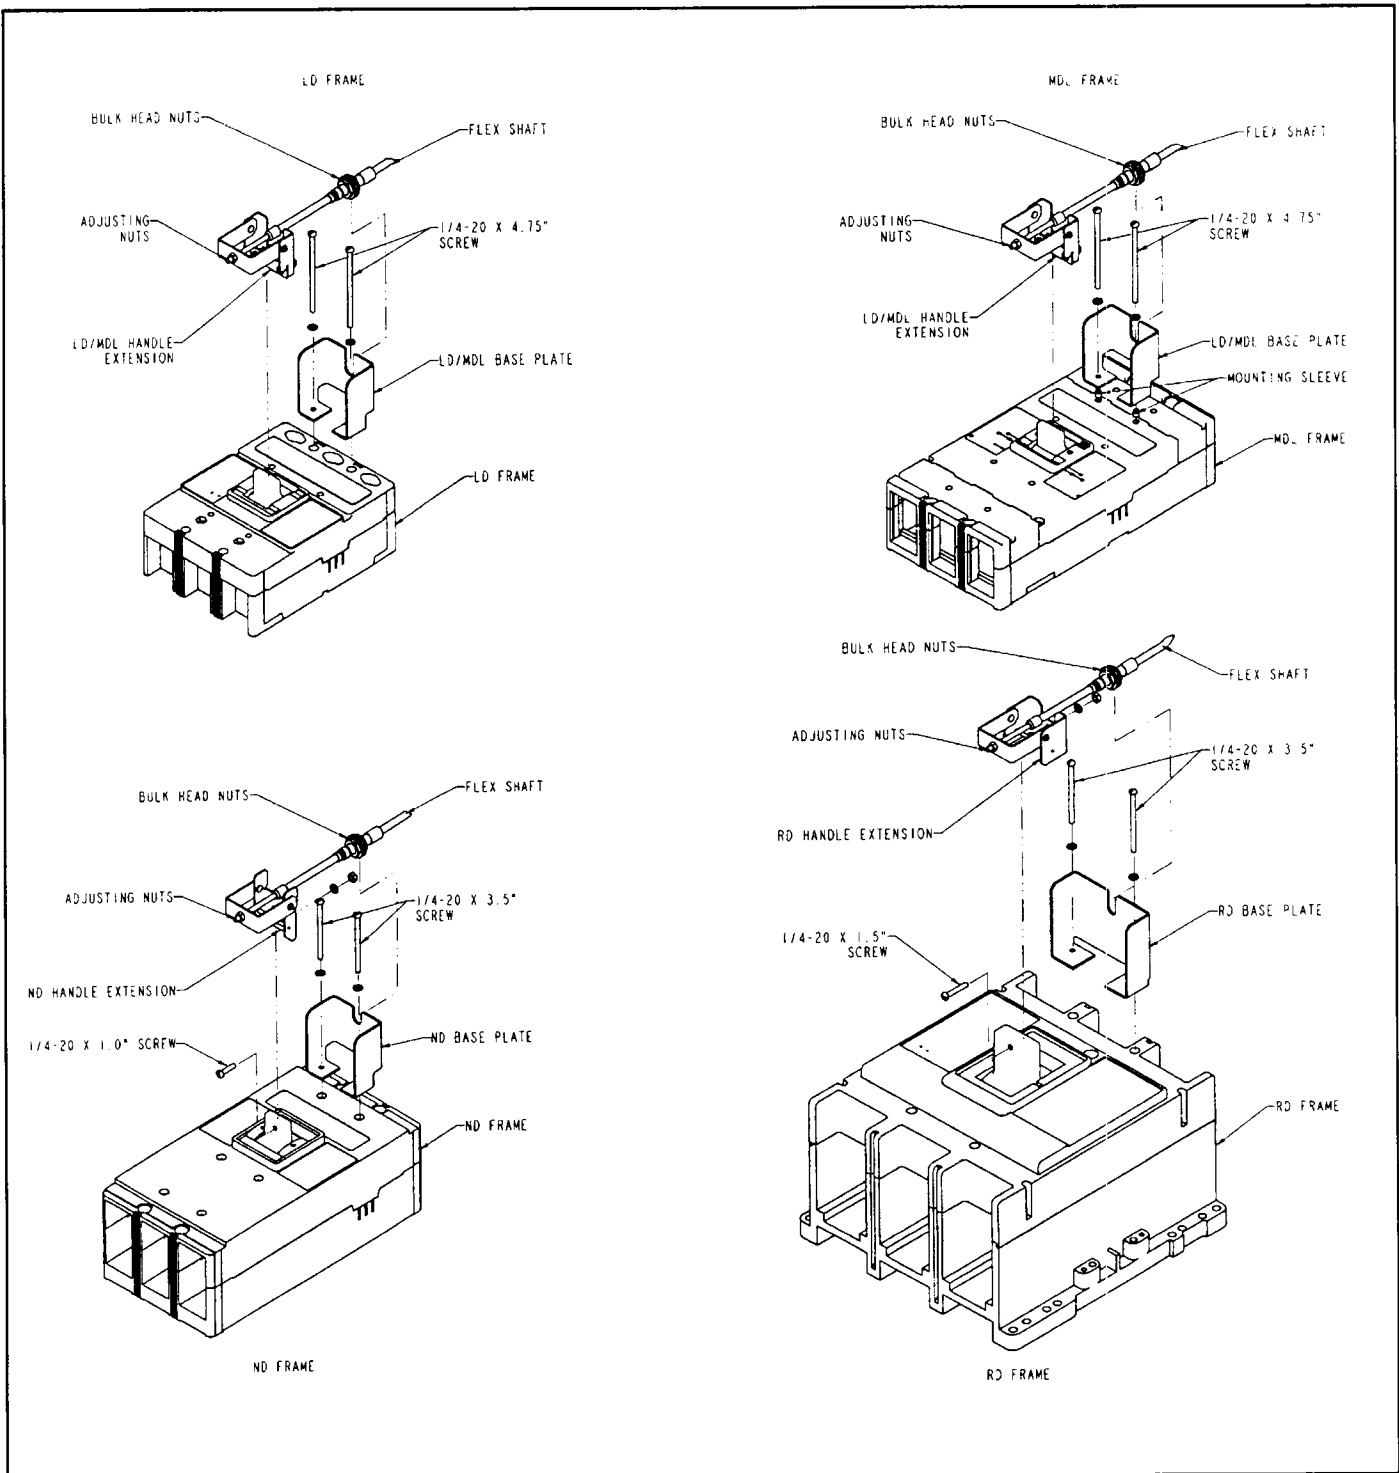

Fig. 1-2 LD, MDL, ND, RD Mechanism Assembly
**LD:** Attach the base plate and Load end of the breaker to enclosure using the 1/4-20x4.75" screws and lockwashers enclosed. See Figure 1-2 for illustration.
**M:** Attach the Load end of the breaker to the enclosure using hardware frame parts kit. Attach the base plate to the Load end cover on the (M) type breaker. The load end cover screws are replaced with the (2) 10-32x2" screws and lockwashers enclosed. (Not shown in Figure 1-2).
**MDL:** Attach the load end of the breaker to the enclosure using hardware from the hardware kit. Attach the base plate to the load end cover of the breaker. The load end cover screws are replaced with the (2) #8-32x2.25" screws, #8 lockwashers, and mounting sleeves enclosed. See Figure 1-2 for illustration.
**ND:** Attach the Load end of the breaker to the enclosure using hardware from the hardware kit. Attach the base plate to the circuit breaker using the 1/4-20x3.5" screws and 1/4" lockwashers enclosed in the parts kit at the load end of the breaker after removing the (2) load cover screws located between the trip unit and the two load end mounting holes. See Figure 1-2 for illustration.
**RD:** Attach the Load end of the breaker to the enclosure using the hardware from the hardware kit. Attach the base plate to the circuit breaker using the 1/4- 20x3.75" screws and 1/4" lockwashers enclosed in the parts kit at the load end of the breaker. See Figure 1-2 for illustration.
6. Place the outer handle mechanism in the full **ON** position and the circuit breaker in the **ON** position. You must Release Cover interlock to move handle to **ON** position. Place the handle extension assembly onto the breaker handle and secure as shown on Figure 1-2.
8. Actuate the outer handle positions (**ON**, **OFF**, **RESET**). If minor adjustments are necessary, refer to the following adjustment checklist and Figure 1-2.